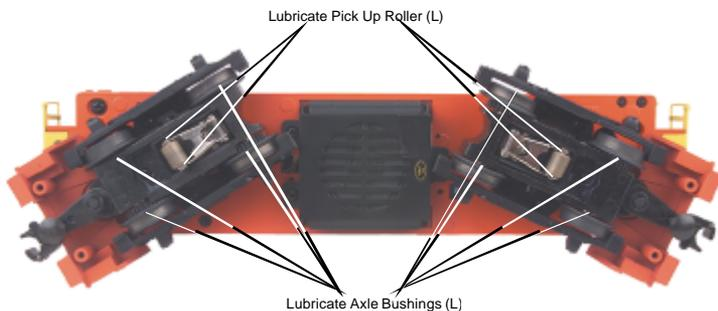
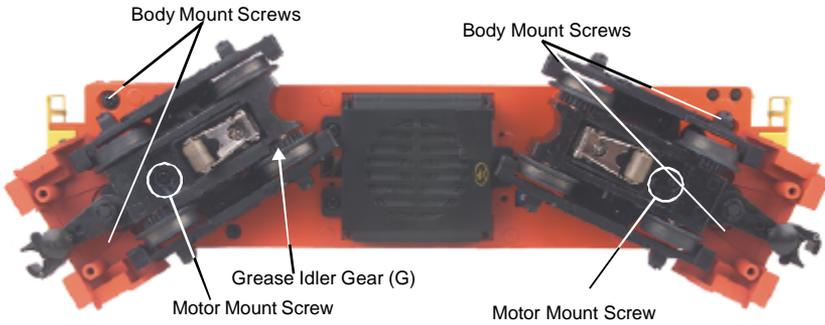

Figure 2. Lubrication Points on the Engine
Figure 3. Body Mount Screws and Greasing Points.
Although the engine was lubricated at the factory, it is important that you lubricate the chassis before operation. Lightly grease the outside idler and drive gears (marked “G” in Fig. 3 on page 9) to prevent them from squeaking. Use light household oil and follow the lubrication points marked “L” in Fig. 2 on page 8. Do not over-oil. Use only a drop or two on each pivot point.
You should regularly lubricate all outside idler gears and pickup rollers to prevent them from squeaking. Use light household oil and follow the lubrication points marked “L” in Fig. 2. Do not over oil. Use only a drop or two on each pivot point.
1. Remove the Phillips screws from the chassis, as seen in Figure 3, then lift the body away from the chassis.
2. Remove the truck blocks from the chassis by unscrewing the black Phillips motor mount screw on the bottom of each truck block, as shown in Figure 3.
It is also a good idea to lubricate the outside truck block idler and drive gears with grease occasionally. Add grease to the points marked with “G” in Figure 3.